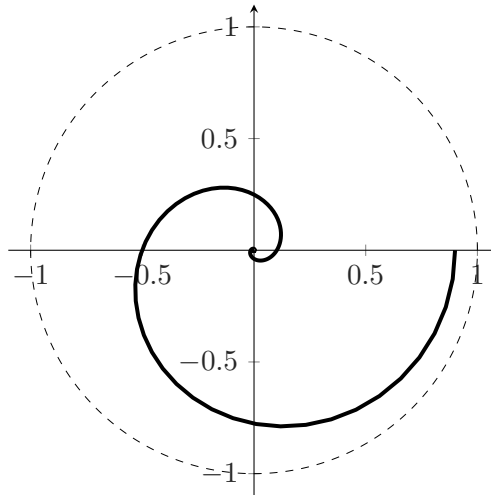

Figure 1 Nyquist plot for the loop transfer function in Problem 2
2. Figure 1 shows the Nyquist plot of a loop transfer function. Determine if the following statements are true or false. Don't forget to motivate!